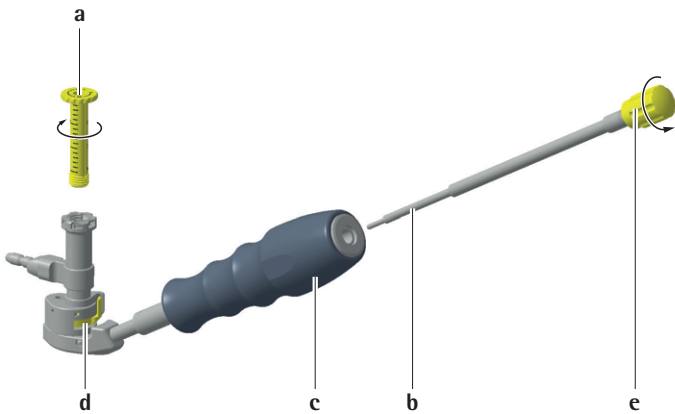

Fig. 61
- ▶ Remove the tubes: turn the golden trigger **d** (see Fig. 61) and pull out the tube.